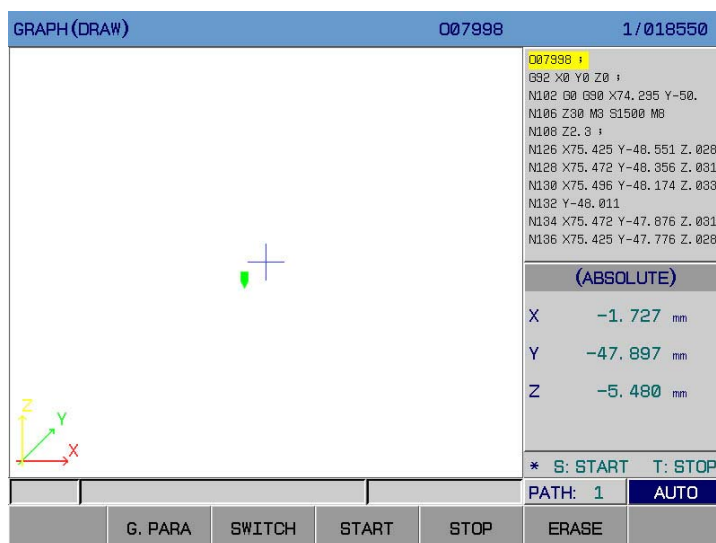

Fig. 3-5-2
2) Figure interface Enter the interface interface by **【+FIGURE】**. (Refer to Fig. 3-5-2):